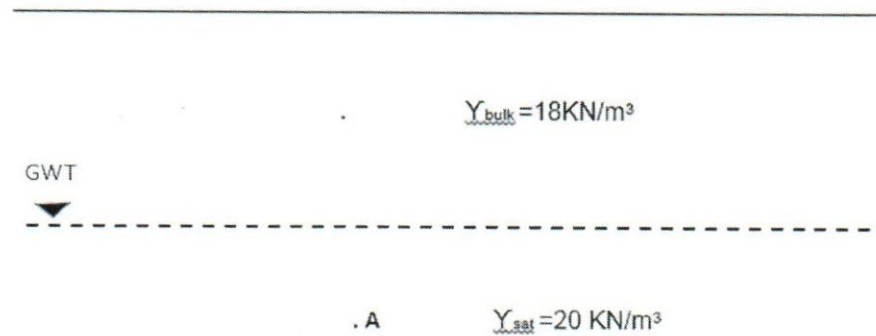

Figure 2
- a) In the Figure 2 given below, the ground water level located 4m from the surface while point A located at 2m below the ground water level. (Assume γ_w as $10\text{kN}/\text{m}^3$)